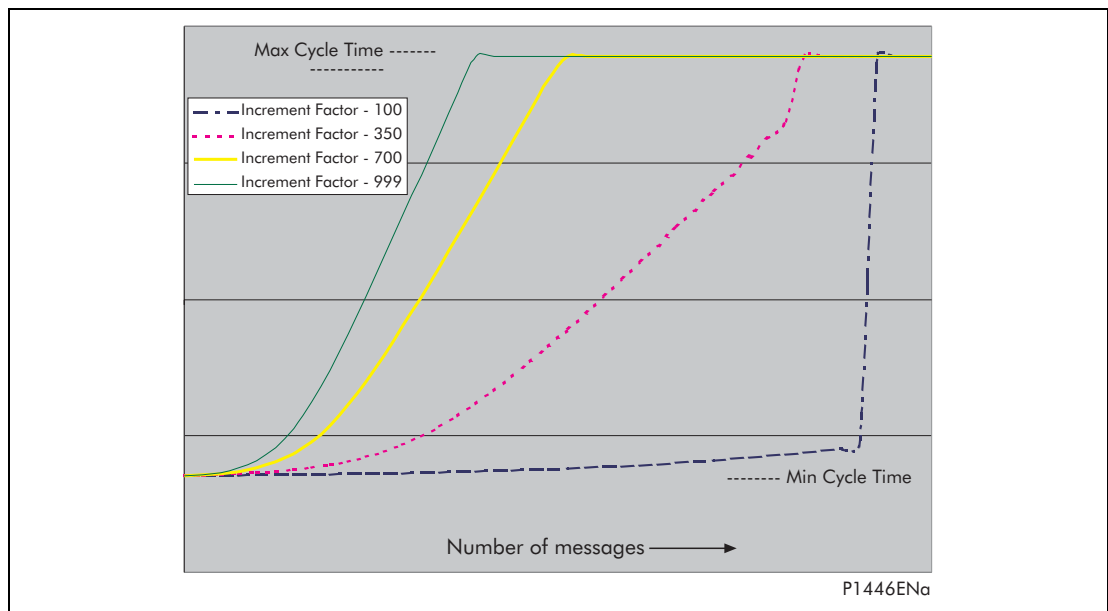

Figure 2: GOOSE message transmission rates
The Increment determines the rate at which the message 'steps-up' from Min cycle time to max cycle time, as shown in figure 2.
- The increment value should be chosen such that it is as small as possible but different for each device sharing a common (or similar) minimum cycle time value. This will provide a degree of time differentiation as retransmissions occur. Small increment values cause the retransmission delay to slowly increase to the maximum value (increasing dependability), whereas a large increment value will cause it to rapidly increase (increasing reliability). See figure 2.